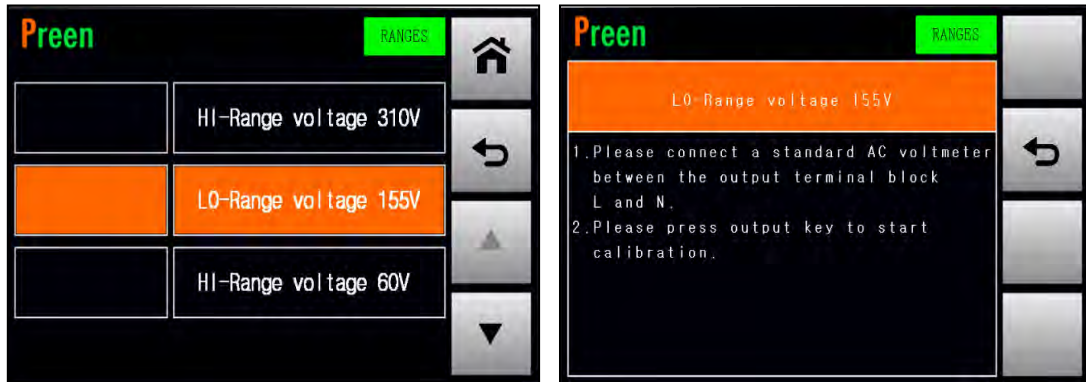

Figure 4.7 Enter into the page which calibrates the LO-Range voltage 155V
1. Press the item LO-Range voltage 155V repeatedly to enter into the page which calibrates the LO-Range voltage 155V (refer to Figure 4.7).